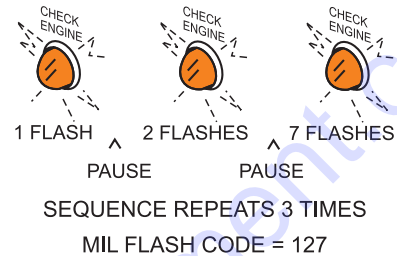

Figure 39. MIL Flash Error Code
9. The check engine warning lamp will flash in 3 separate bursts as shown below. This sequence of lamp flashing represents the MIL flash error code (Figure 39). See Table 7 for a complete listing of error codes. In the MAP sensor example, the error code is 127.